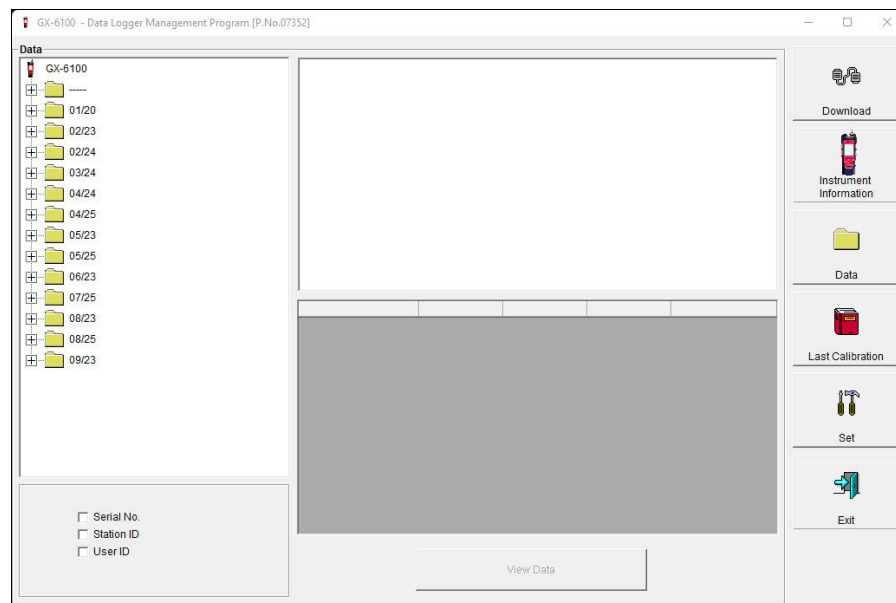

Figure 12: Data Window
2. Click the selection box or boxes in the lower left frame to organize the data as desired. The data may be organized by one or more of the following parameters: serial number, station ID, or user ID. If none of the boxes are selected, then the data is organized as shown in Figure 12.